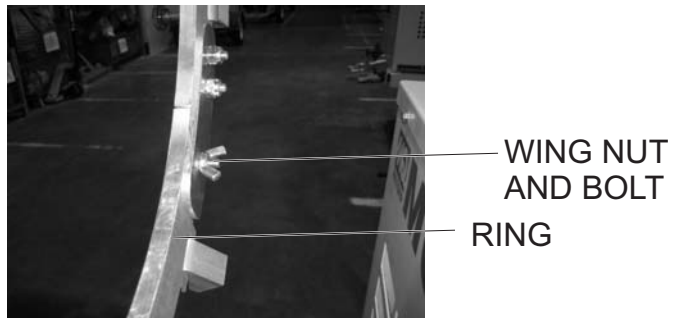

Figure 8. Securing the Ring
8. Attach the two halves together with the two screws and wing nuts. See Figure 8.